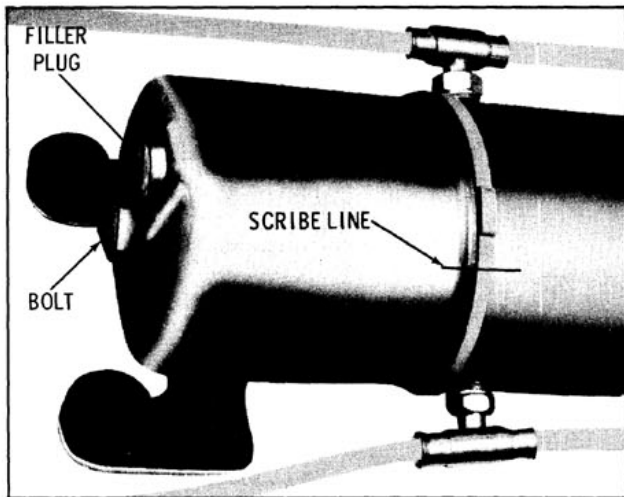

Fig. 16-153 Alignment Marks
2. Scribe a line across pump end plate and reservoir tube to insure a correct assembly of parts. (Fig. 16-153)